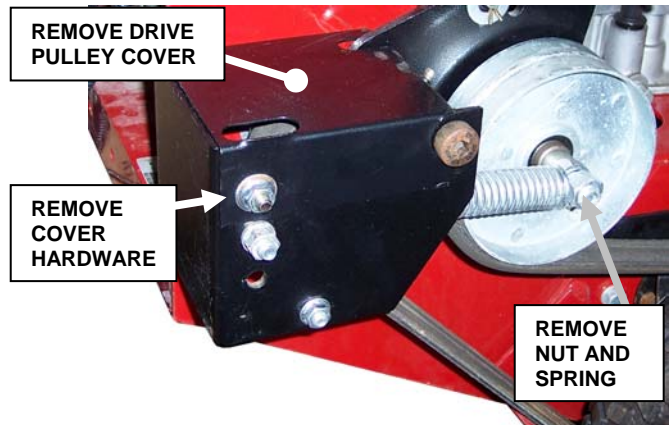

**FIGURE 6.11**
2. Loosen nut securing Transmission Idler Pulley to adjustment slot in engine base, and slide pulley away from belt. See Figure 6.11.
4. Install new belt, using same pulley routing. See Figure 6.11.